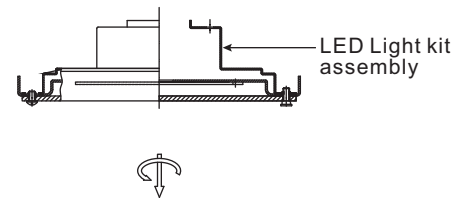

Figure 12
Step 1. Remove the light shade from the LED light kit assembly. (Fig. 12)